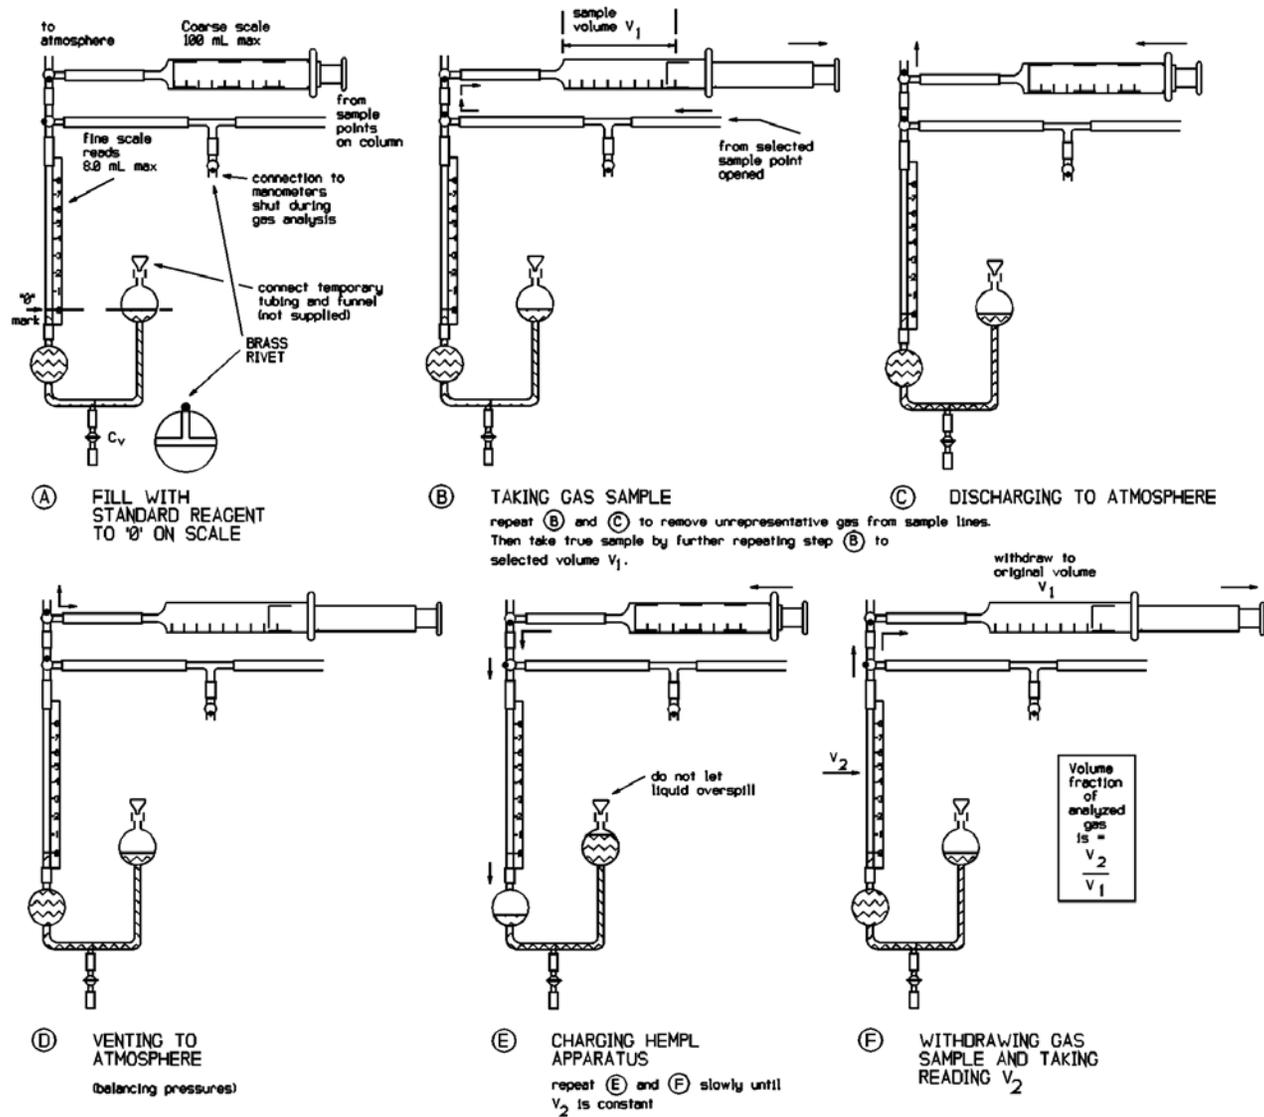

Figure 3. Hempl apparatus for gas analysis
1. Fill the two globes of the absorption analysis equipment on the left of the panel with 1.0 M NaOH solution if it has not already been done. Use a small funnel and tubing. **NOTE: Wear safety gloves and goggles.** Adjust the level in the globes to the “0” mark on the sight tube, by draining liquid through valve C_v into a flask (See A in Figure 3.). This will normally have been done for you. Ask the Lab Services Coordinator to add more NaOH if necessary to bring the level to zero on the measuring tube scale.